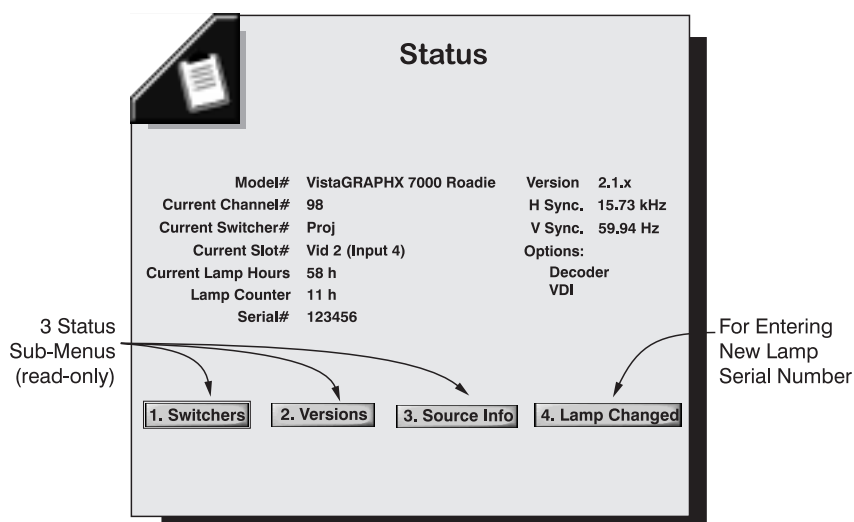
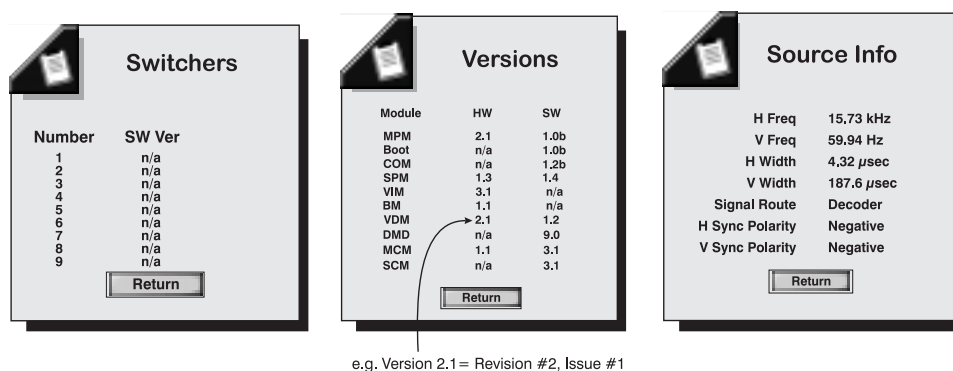

Figure 3-16. Main Status Menu (sample)
Figure 3-17. Status Sub-menus (sample)
- Status** ➤ This primarily read-only menu (Figure 3-16 and Figure 3-17) consists of four separate read-only menus plus a text editing box used for entering the serial number of a new lamp. The four menus list a variety of details about the standard and optional components currently in use on the projector. Refer to these menus for information about hardware and software versions installed, number of lamp hours logged in total and for the current rental period, and projector model and serial number. In addition, the *Status* Menu identifies the current channel, switcher, slot and frequencies present. Use the *Status* menu whenever you install a new lamp assembly.